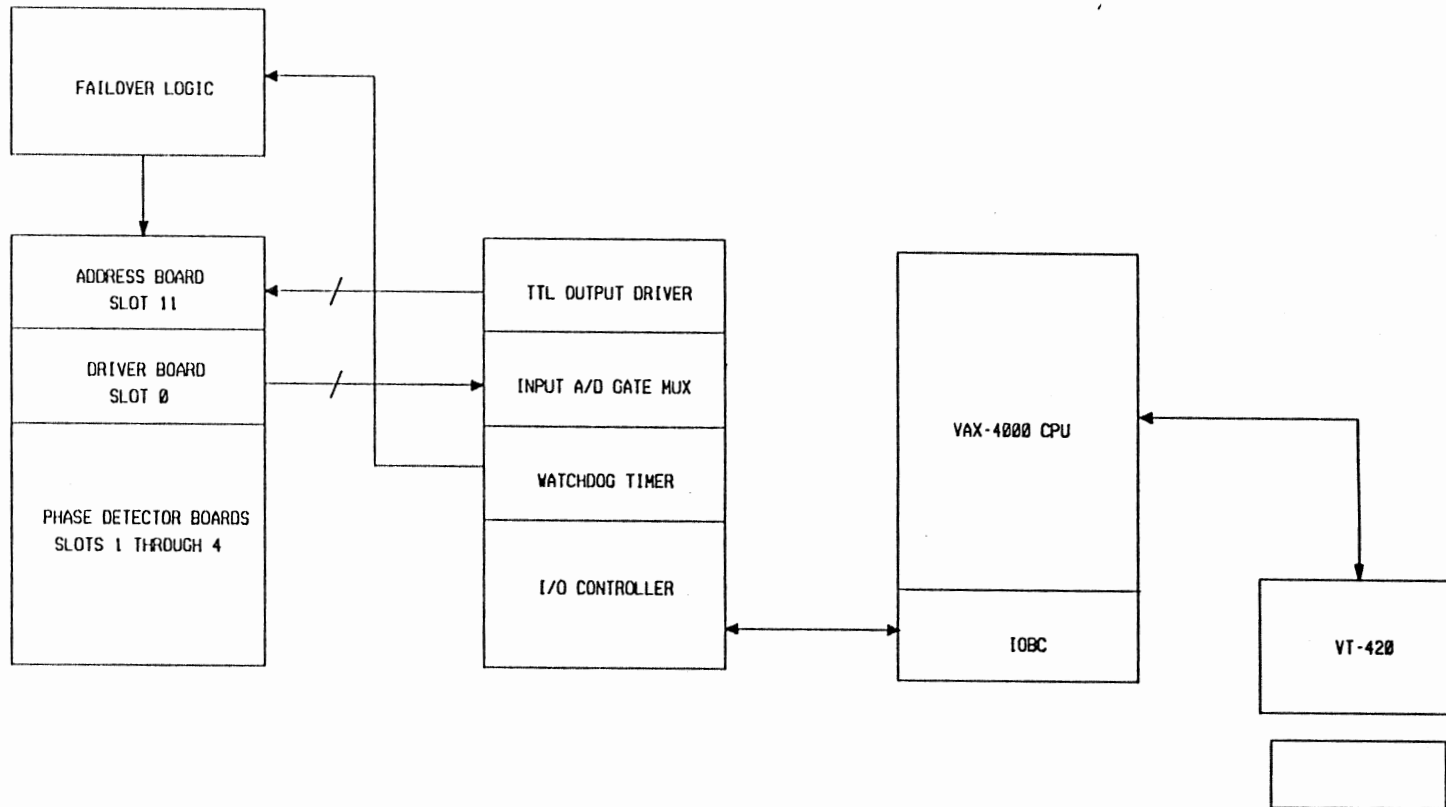

Figure 3-1: General System Block Diagram
3.1 GENERAL THEORY (Refer to Figure 3-1 for the General System Block Diagram)